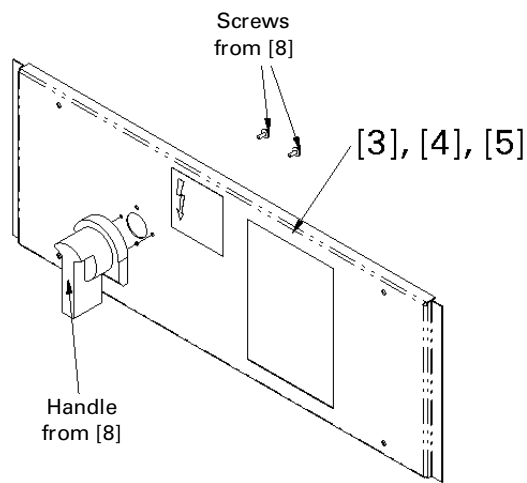

Figure 11. Handle from disconnect installed onto cover.
7. Install the disconnect handle. Mount the disconnect handle as shown in Figure 11. The base of the handle must be oriented so that the OFF indicator is on top and the ON indicator is on the right. The handle must be pointing down. Cover selection ([3], [4], or [5]) is dependent on the width of the panelboard or switchboard.